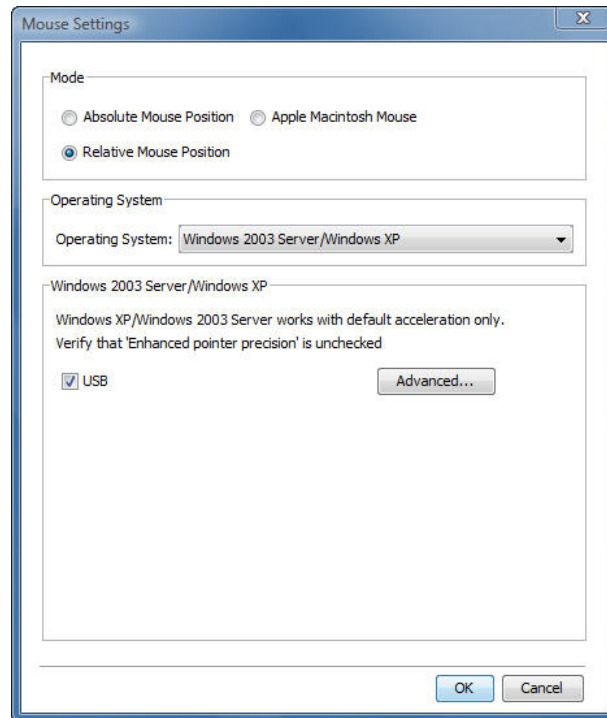
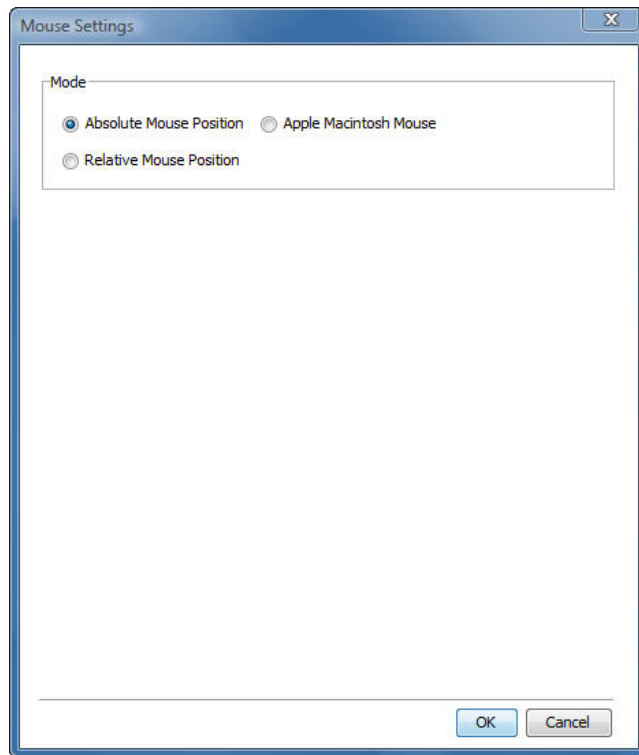

Figure 43 – Relative Mouse Settings
Figure 44 – Absolute Mouse Settings
For **PX PS/2** devices, the default mode is **Relative Mouse Position** (see Figure 43); for **PX USB** devices, the default mode is **Absolute Mouse Position** (see Figure 44)
- If the operating system on the Target is Windows ME or later, select **Absolute Mouse Position** mode (see Figure 44); this is the default mode for PX USB devices.
1. In the **Mouse Settings box** (see Figure 44), click **Advanced**.